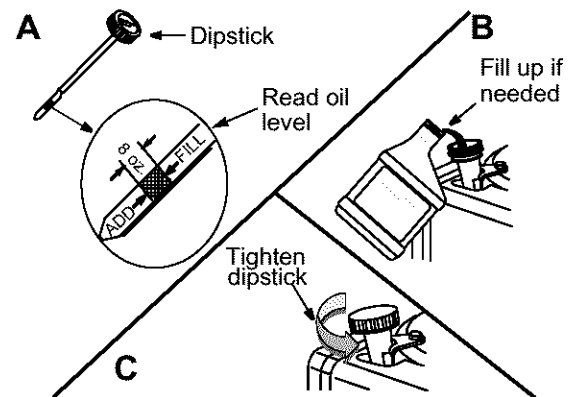

Figure 8
2. With engine on level ground, oil must be to FULL mark on dipstick. See Figure 8.